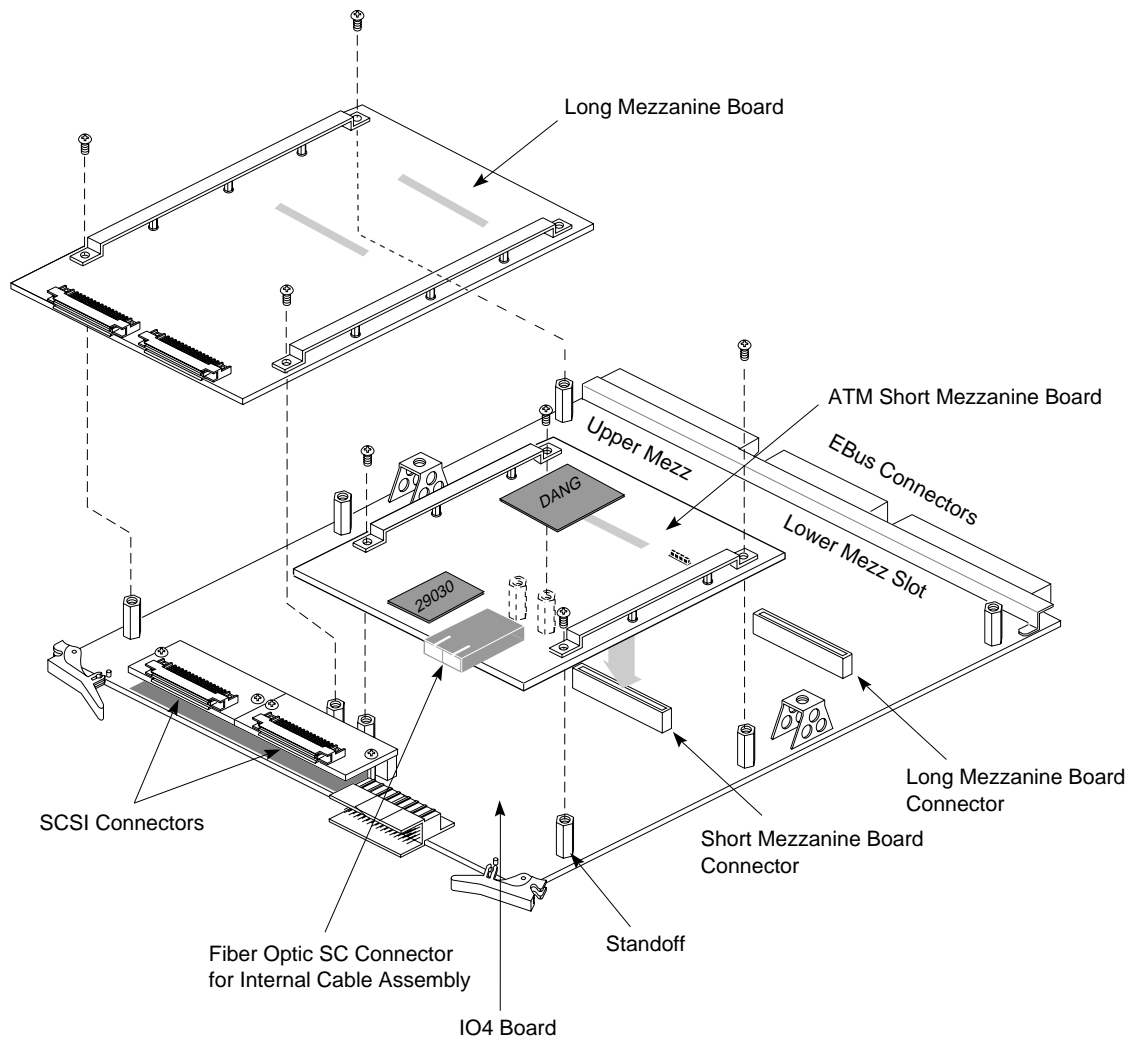

Figure 2-21 IO4 Board with an ATM Mezzanine Board
2. Lay the board on a flat antistatic surface so that the component side faces up and the SCSI connectors face toward you, as illustrated in Figure 2-21.
3. Locate the selected mezzanine slot (upper or lower) and remove the four screws from the standoffs, as illustrated in Figure 2-21. If the screws are missing, this is not a problem.
4. Position the IRIS ATM board onto the selected slot so that the connector on the bottom of the board matches the receptacle on the IO4 board and the standoffs match the ATM board's holes. Figure 2-21 illustrates the correct positioning for the upper and lower slots.